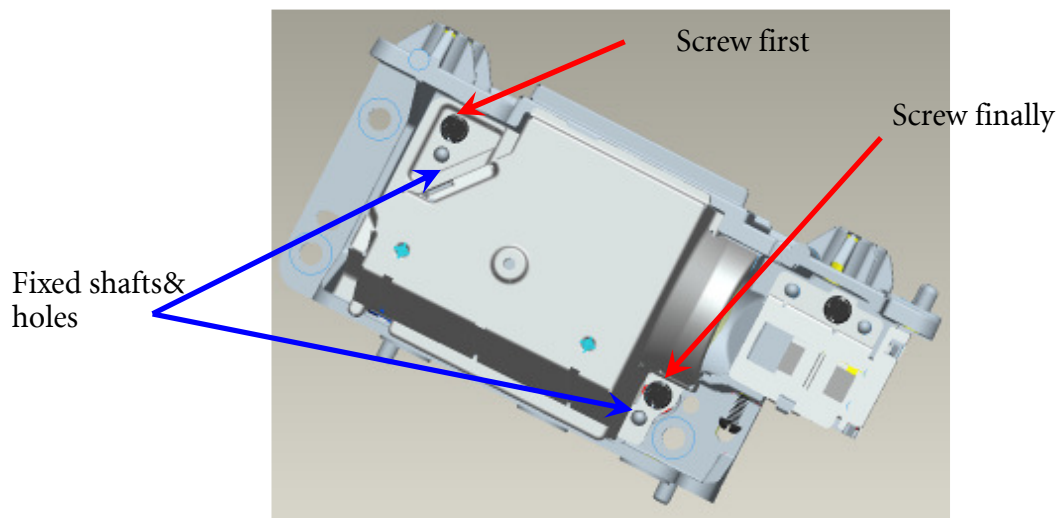

Fig. 3-2
- 3.2 To assemble ”HSG ILL SUB Module” with “HSG DMD” and cover over on “AL” and the then lock with screws (Fig. 3-2).